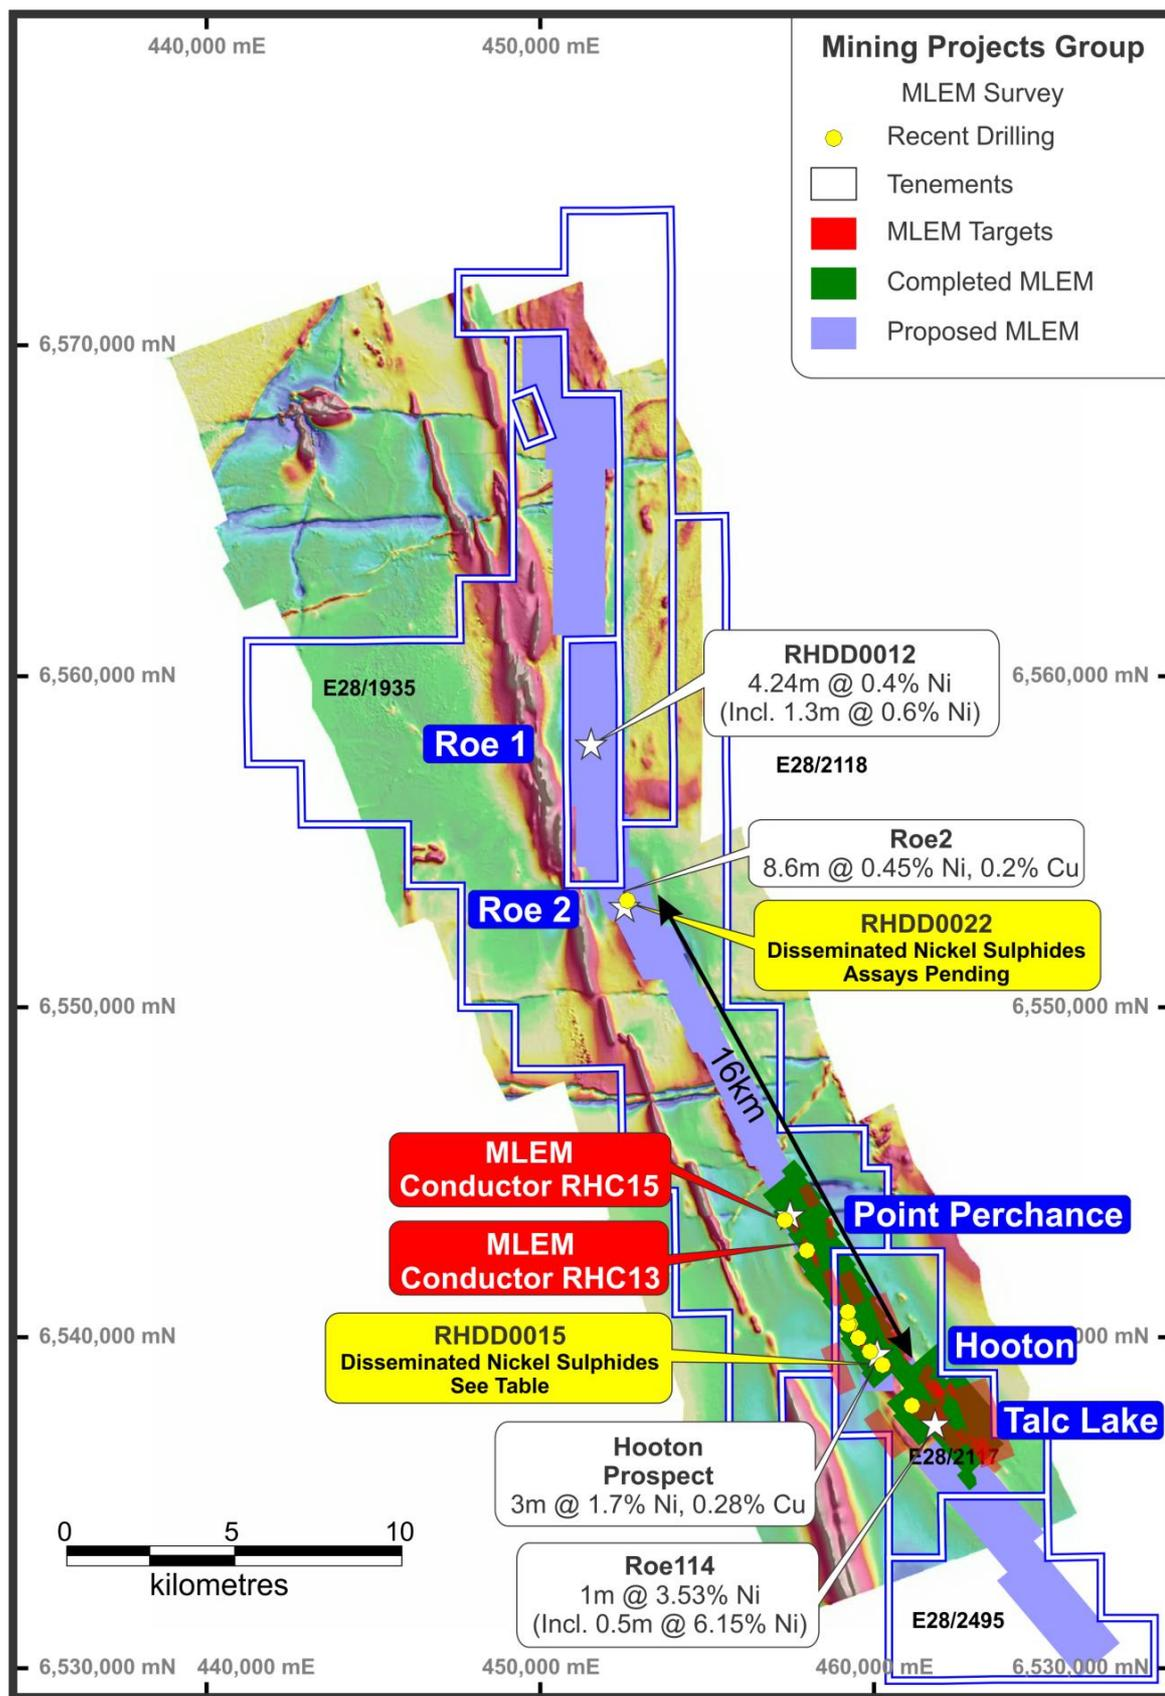

Figure 2: Roe Hills project area showing planned MLEM, completed MLEM, target conductors & historic and recent drill intersection.
**Significantly, 2 new mineralised zones have been successfully identified at the Hooton and Roe 2 Prospects situated some 16 kilometres apart (Figure 2).**
Seven holes (RHDD0013-RHDD0019 inclusive) were completed at the Hooton Prospect for 2,200.4m (Figure 2).
RHDD0015, only the third hole undertaken in the current programme, was drilled to test historical near surface aircore Ni, Cu, PGE geochemical anomalism associated with a discrete magnetic high within what is now described as the “Central Ultramafic Belt” (Central Belt) at the Hooton Prospect. The Central Belt can be traced in aeromagnetic imagery beneath transported cover over a strike length of at least 5 kilometres at Hooton with hole RHDD0015 being the first effective test of the sequence (Figures 2 and 3).
Two holes (RHDD0020 and RHDD0021) were completed at Point Perchance for a total combined metrage of 758.8 metres (Figures 2 & 4).